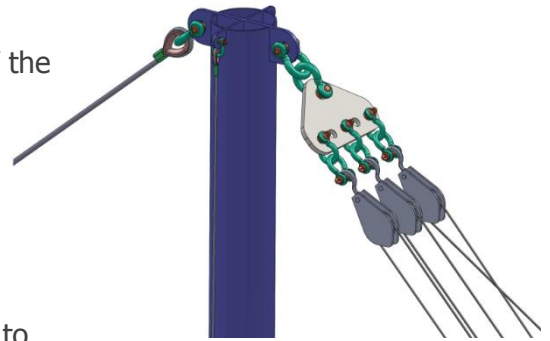

Figure 5.2
3. Next take the two 15m Ø12 Steel Ropes and connect them to the 5/8 shackles at the top of the gin pole as in Figures 5.2 and 5.4.
6. Finally, take the link plate and connect that to the remaining tab on the gin pole with a 1-3/8 shackle as shown in figure 5.2 and 5.4. The link plate will be used to connect the pulling cables to the truck.